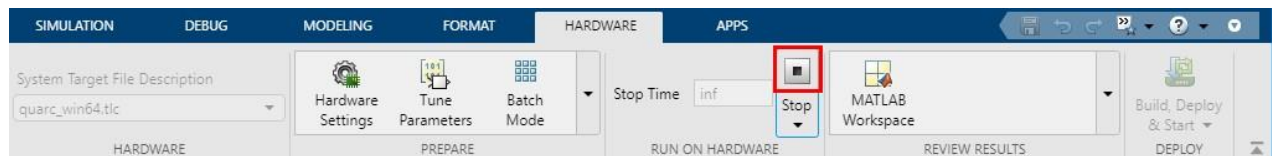

Figure 14: Running Simulink (QUARC+QCAR) Model in External Mode
- If the model is successfully built and downloaded to the target. Simulink will automatically connect and start the real-time code on the target and the Monitor Tune button will automatically change to a Stop button (See Fig. 14)